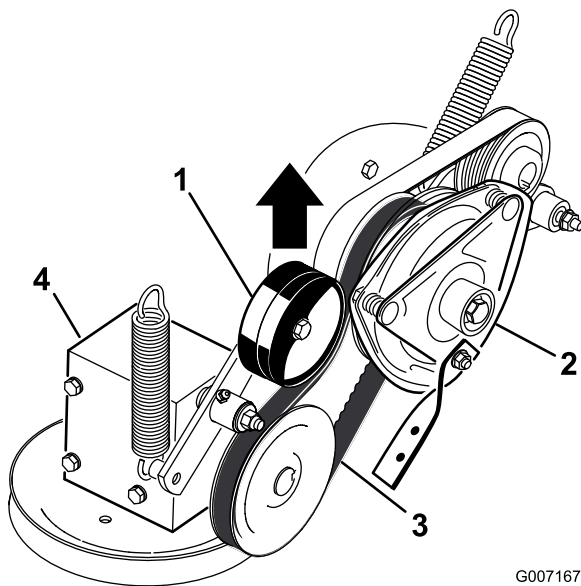

Figure 54
5. Pull up on the spring loaded idler pulley for the PTO drive belt and remove the belt from the clutch pulley (Figure 54).
17. Pull up on the spring loaded idler for the PTO drive belt and install it onto the clutch pulley (Figure 54).